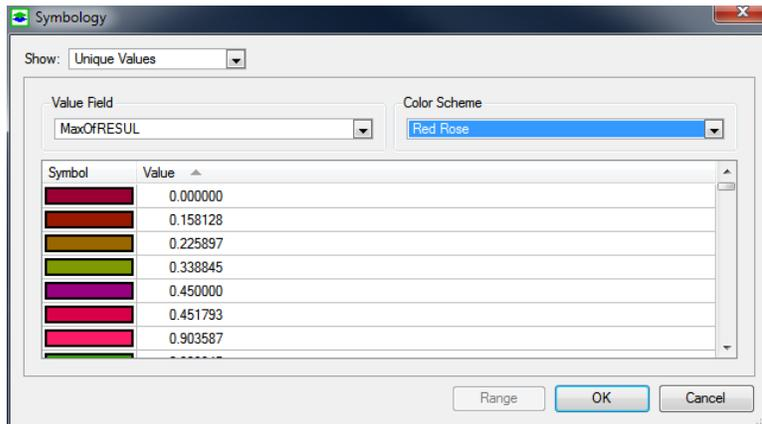

Figure 2.10. The Symbology Dialog Box Unique Value Style
2. *Unique Values* (Figure 2.10): Seer3D can assign a color to each unique value within a selected value field. For example, if a shapefile were to have a value field for land use, a different color could be selected to represent each type of land use (i.e. residential, commercial, agricultural, etc.).